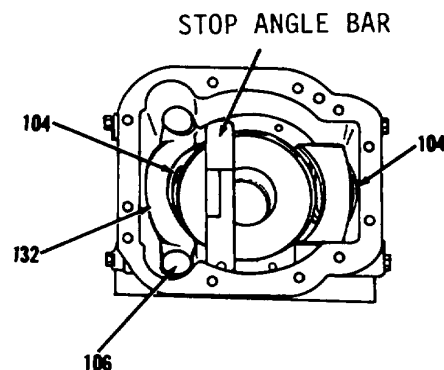

Figure 10-52.
20. Install stop angle bar on swashplate (132, Figure 10-52). Stop angle bar must be installed with the deepest point of the two angles toward the minimum stop bolt (106). The stop angle bar must be at a 90 degree angle to a line through the center of two bearings (104).